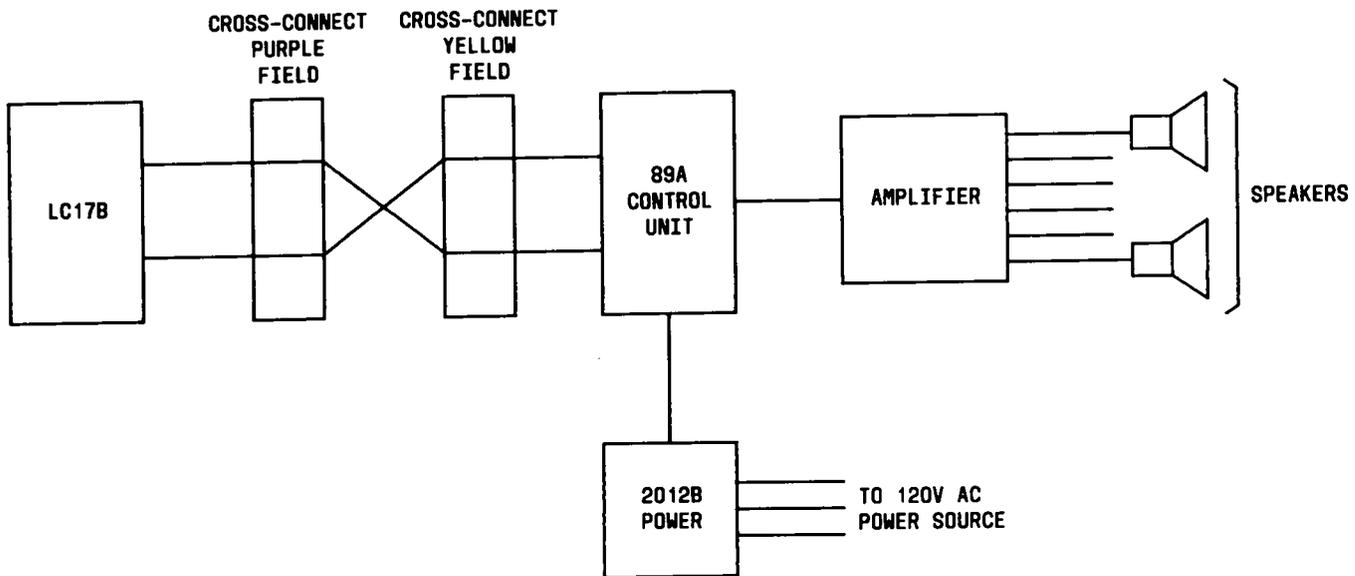

Fig. 10—Code Calling Access (Chime Paging) Equipment—Block Diagram
4.32 Chime Paging: The Code Calling Access (Chime Paging) feature enables attendants, station users, and tie trunks to dial an access code and a 2- or 3-digit called party code to activate an electronic chime corresponding to the calling party by dialing an answering code from any station within the PBX. When chime paging is required, the following hardware must be installed (refer to Fig. 10 for a block diagram of hardware connections):